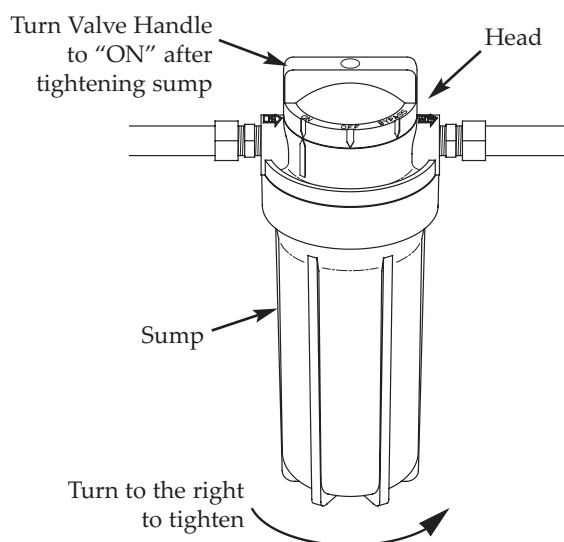

Figure 15
8. If the filter is installed for whole house water filtering, partially open a house faucet on the outlet side of the filter housing. Open the sink cold faucet if the filter is an undersink installation. Then, turn the filter valve handle to the "ON" position (See Figure 15) and allow the filter housing to fill with water.